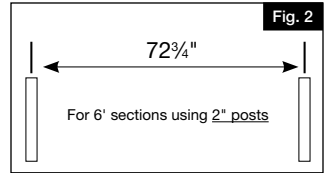

Fig. 2
- For 6' sections using 2" posts: measure 72¾" from the center of an end point and mark with stake (Fig. 2).